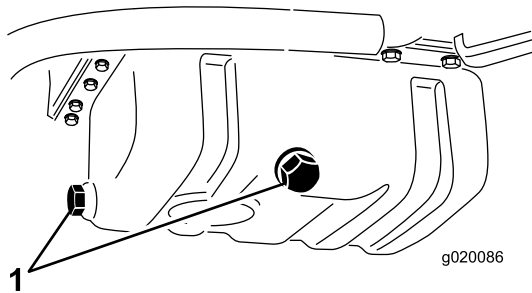

Figure 51
2. Remove either drain plug (Figure 51) and let the oil flow into a drain pan. When the oil stops flowing, install the drain plug.